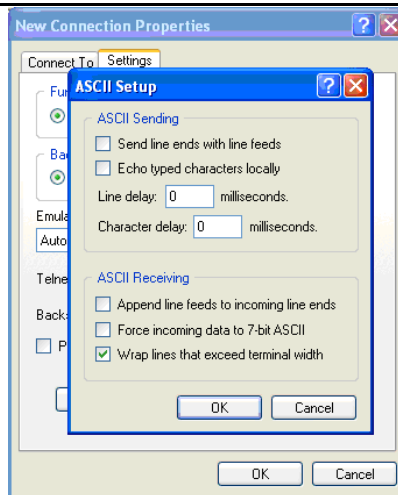

Figure 21. ASCII Setup
6. On the Settings tab, click on the ASCII Setup button. Verify the settings match the "ASCII Setup" in Figure 21.